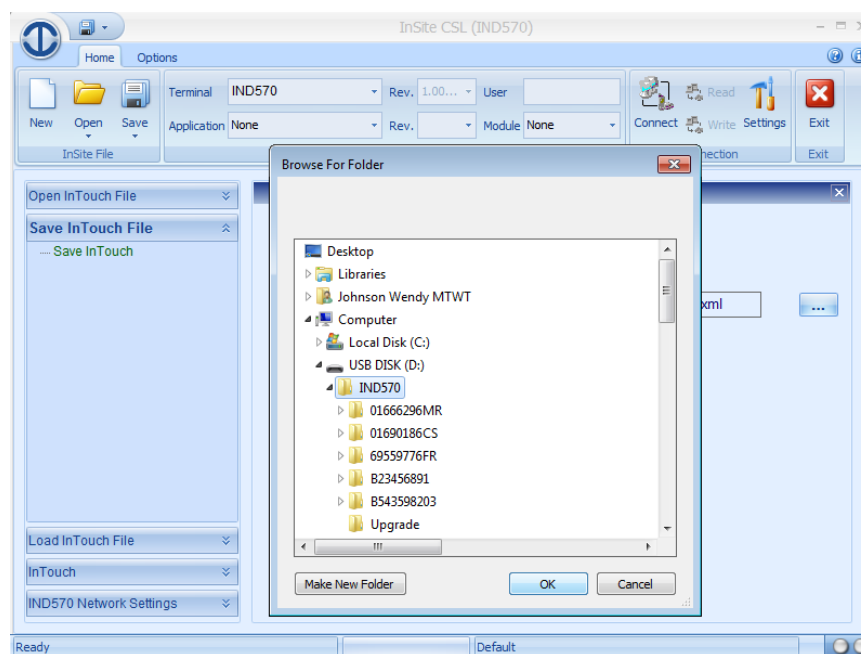

Figure 5-53: Saving the InSite Configuration File to USB
3. If additional terminal configuration of non-InTouch functions has also been completed in InSite, you must also save the terminal configuration file. This is separate from the InTouch.xml file. Click on the Home tab of InSite CSL. Click on Save and select Save to USB. Click on the IND570 main folder and click OK (Figure 5-53). The full terminal configuration, including the InTouch.xml file, and now saved to the USB memory drive under the specific terminal serial # folder.